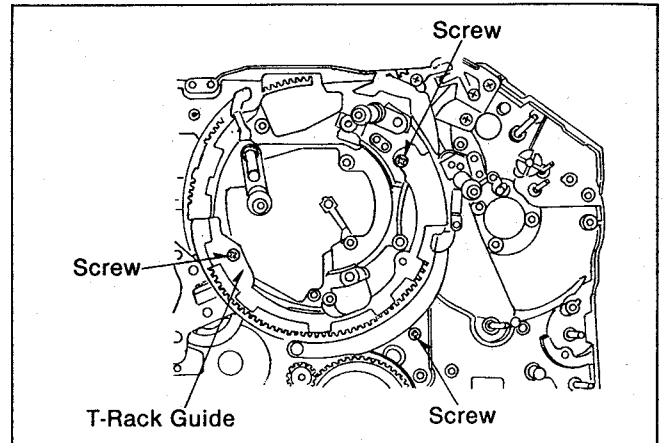

Fig. M7
(1). Install the T-Rack Guide as shown in Fig.M7.